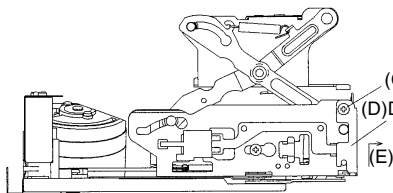
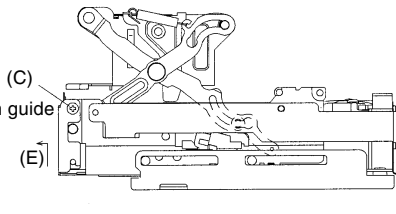

Fig.3
Fig.4
- (3) Remove the two screws (C) and remove the down guide (D) in the direction shown by the arrow (E). (See Fig.3 and Fig.4.)